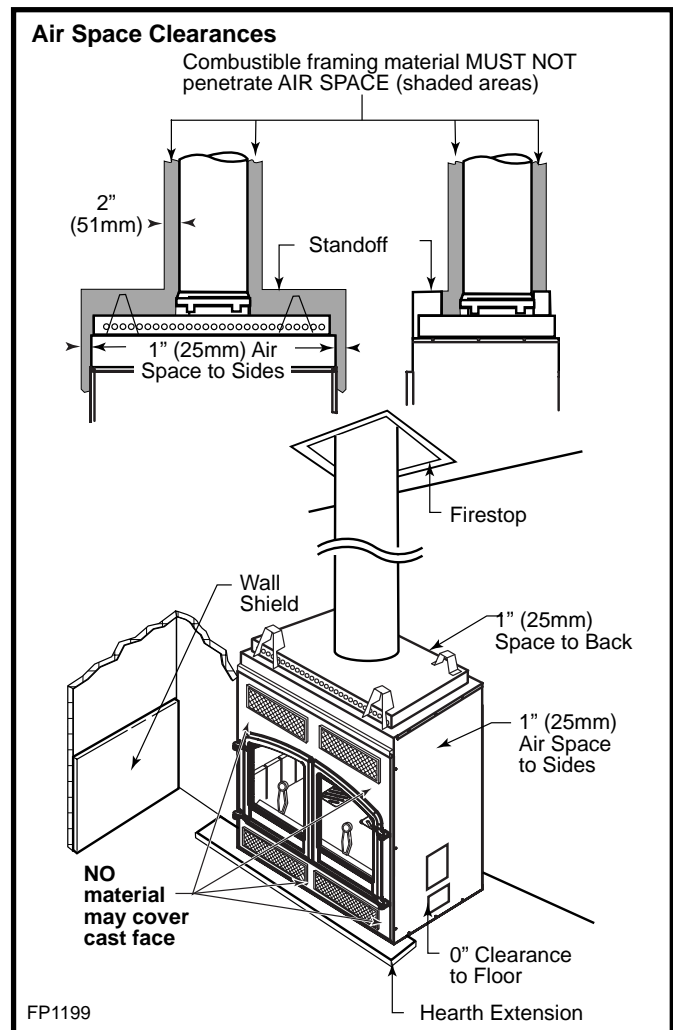
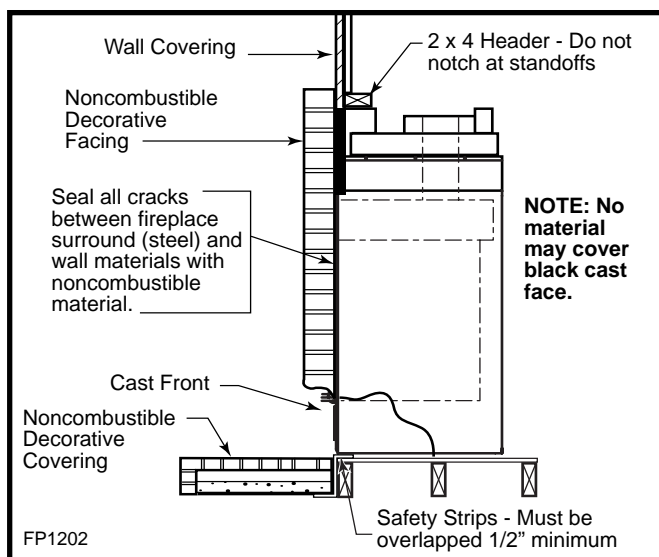

Fig. 19 Minimum clearances to combustibles.
Fig. 24 Sealing gaps.
CAUTION: All joints between the finished wall and the fireplace surround (steel front) must be sealed with noncombustible material to prevent cold air leakage into the room. (Fig. 19)
Adjacent combustible side walls that are within minimum dimensions shown in Figure 24 of the fireplace opening must be protected with Majestic Wall Shield Model SP40 or a specifically built wall shield described in Figure 19.
The special wall shield design described in Figure 19 is an alternate method of adding protection to side walls and can be used in place of the SP40 with the same wall clearances specified for the SP40. Rt must = 1.85 minimum.
Secure the hearth extension to the floor to prevent shifting, using trim molding or other similar means at three (3) outer edges. Seal crack between the fireplace hearth and hearth extension with a noncombustible material. (Figs. 24 and 25)
WARNING: Hearth extension must be installed in accordance with Figure 24. Top of hearth extension must be level with bottom of fireplace.